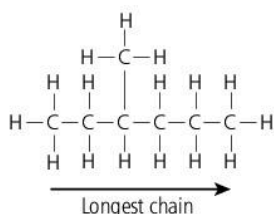

Figure 12.3.3
- Find the longest chain of carbon atoms and name the compound after the number of carbon atoms in this chain. In the example in Figure 12.3.3 the longest chain contains six carbon atoms, so the compound is named after hexane.
- Look at the position of the alkyl side chain. Number from one end of the longest carbon chain so that the side chain is given the lowest number possible. In Figures 12.3.3 and 12.3.4 the methyl group comes off from the third carbon atom.